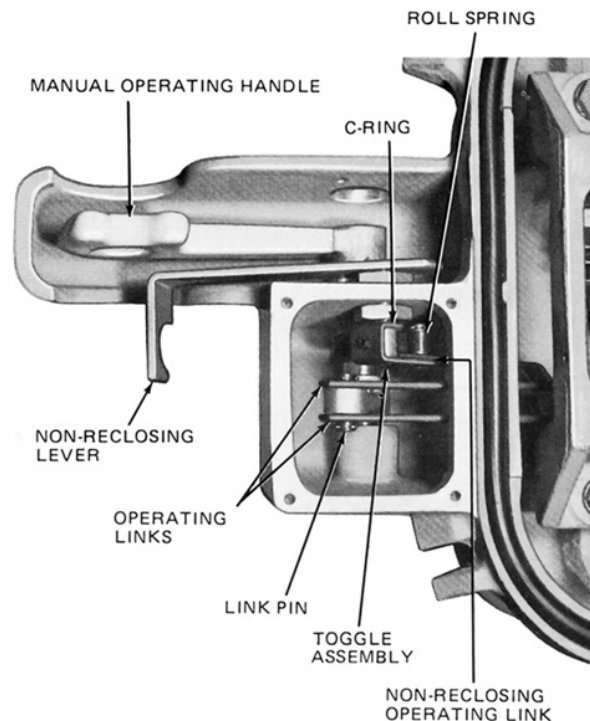

Figure 24. Operating handles mechanisms
The replacement of some parts in the mechanism assembly will be greatly facilitated if the operating mechanism is removed from the head. To remove the operating mechanism from the head, refer to Figures 24 and 25 and proceed as follows:
2. Drive out all three counter lever pins (Figure 24); remove the counter levers and withdraw the counter operating shaft.
phases latch in simultaneously. If one or more assemblies do not latch in at the same time, or fail to latch, adjust the travel of the trip lever in question with the set screw on the lever (Figure 24). Lock all three screws in place when the adjustments have been completed.